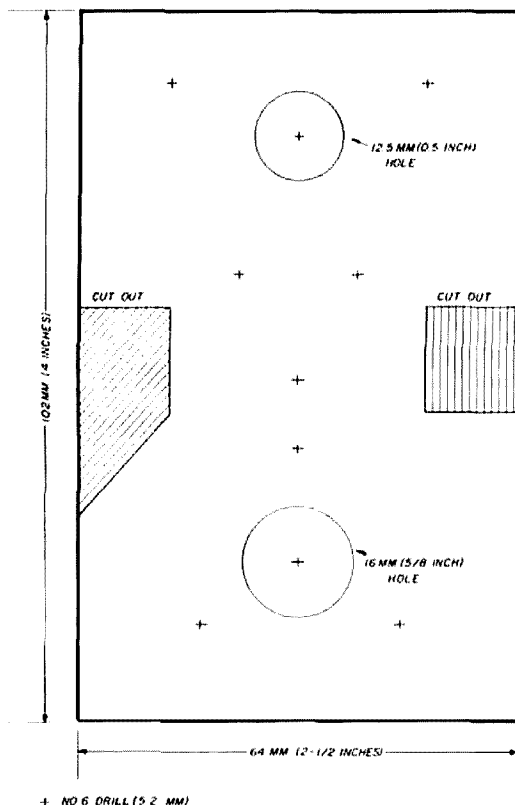

fig. 3. Switch-plate drilling template. Punch or drill through the drawing into the blank switch plate.
fig. 3. Diagram (A) shows the standing wave on the unterminated wire caused by an incoming signal from the rear. The signal voltage across the transformer is at a null $5/4\lambda$ from the open end. When the wire is perfectly terminated (B), the signals from the rear of the antenna are absorbed by the termination.
1	switch mounting plate (refer to fig. 3 and text)
6. Use fig. 3 as a template. Cut a 6.35 by 10.16 cm (2.5 by 4 inch) switch mounting plate from 0.17-cm (0.065-inch) aluminum sheet. Use a sharp center-punch and mark the centers for all holes, right through the template. All screw holes are for 6-32 (M3.5) screws. (I drilled mine for 8-32 [M8] to allow for minor errors.) The ML7464910-G1/407 switch has a 1.27-cm (1/2-inch) shaft bushing. Centralab Ham Switch 2551 has a 0.95-cm (3/8-inch) bushing. The 2551 has six positions. The rear shaft bushing nut on C1 requires a 1.59-cm (5/8-inch) hole for clearance.
Dimensions for the five-unit rack are shown in fig. 3. This unit can also be built from thin do-it-yourself aluminum stock. It will be more rugged if at least 1.3-
fig. 3. Sheet-metal dimensions for the second version of the rack. Bend on the dotted lines to 90 degrees. If prepainted sheet stock is used, watch the direction of bends carefully.